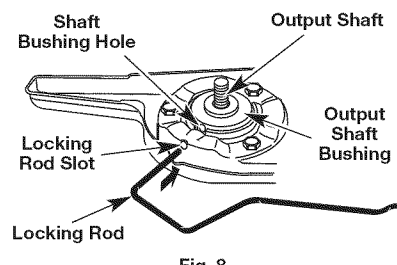

Fig. 8
- Align the shaft bushing hole with the locking rod slot and insert the locking rod into the bushing hole (Fig. 8).